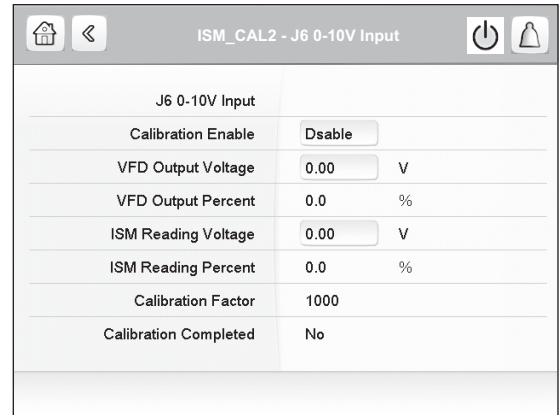

Fig. 42 — ISM_CAL2 Screen
4. Select J6 0-10V Input. The ISM_CAL2 screen is displayed. See Fig. 42.